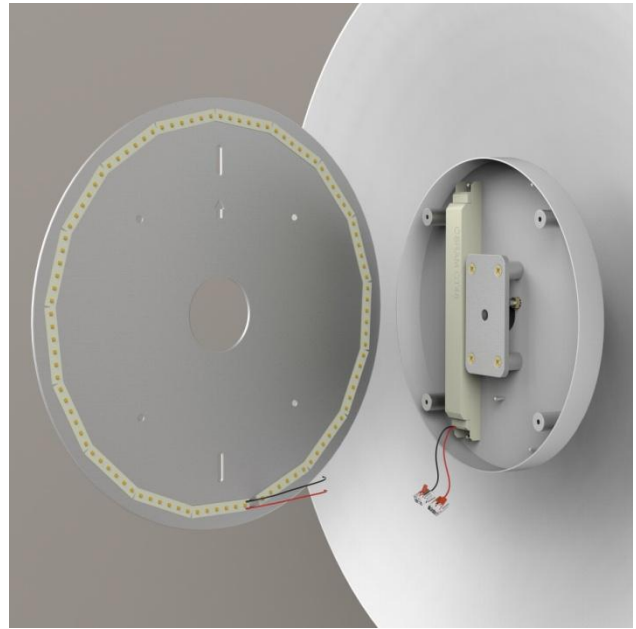

Figure 10
- Using provided lever-style connectors, connect disk wiring to the driver (Figures 10/11).